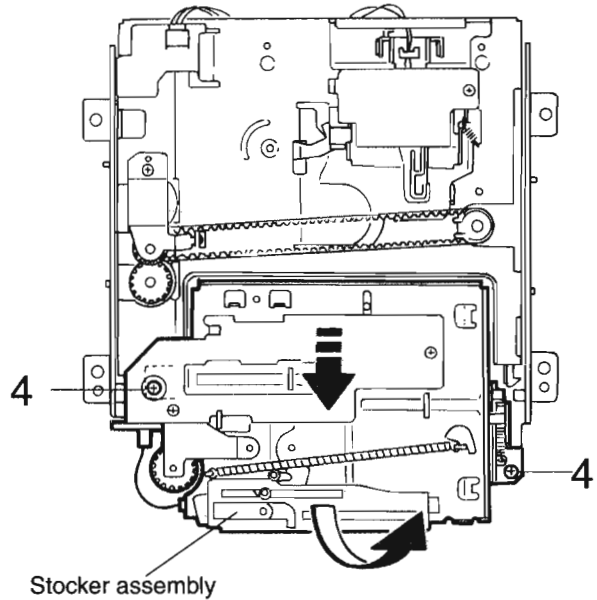

Fig.5
■ Removing the Stocker assembly (see Fig.5 and 6)